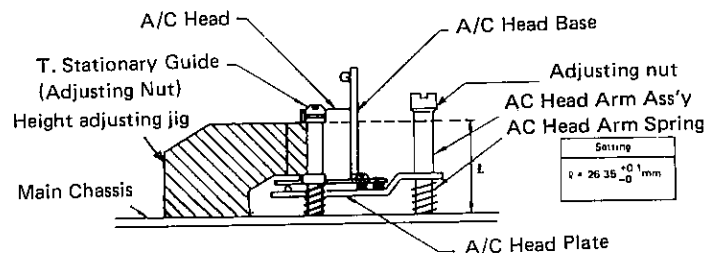

Figure 23.
- Set the guide height adjustment jig on the main chassis A, as shown in figure 23.